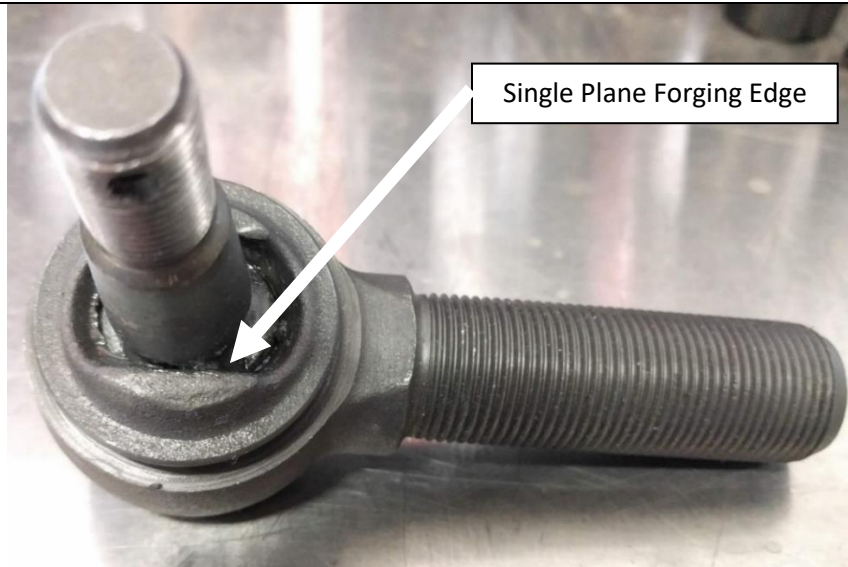
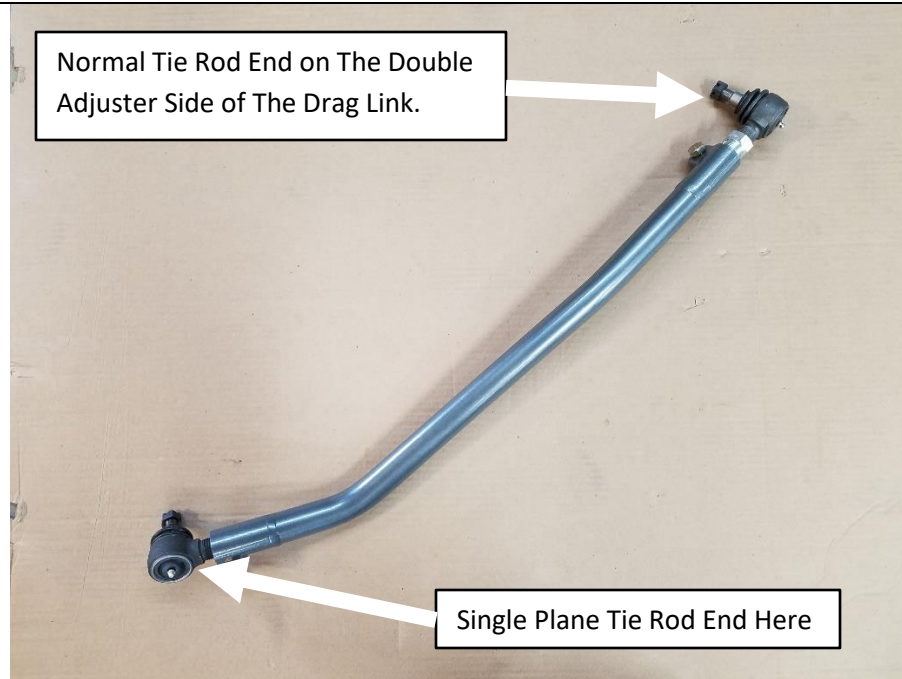

Figure 12. Single Plane Tie Rod End, Boot Removed, to be Installed at Tie Rod
Figure 14. Tie Rod End Locations
20. Verify that the tie rod ends are installed on the correct sides of the drag link. Remove the boots and make sure the Single Plane tie rod end is at the end of the drag link that installs in the Tie Rod (non double-adjuster side). The regular tie rod end should be on the pitman arm side with the double adjuster. See **Figures 12 and 13** for the difference between the single plane tie rod end and the normal tie rod end. See **Figure 14** for their location on the drag link.